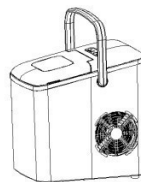

Abb. 2
- Reinstall the drain plug (13) (Fig. 2).
- Wash the ice basket (20) and ice scoop (22) with warm water and neutral detergent, rinse and dry them.
- If there is dirt on the infrared diode (11) and photodetector (15), wipe them with a dry cloth.
- Keep the ventilation grid (5) clean, you can clean it with a vacuum cleaner using a respective attachment.
- Wipe the ice generator body (1) with a damp cloth, then wipe dry. If necessary, use a neutral detergent.
- Do not allow liquid to enter the ice generator body (1).